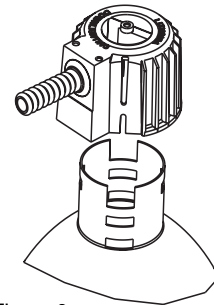
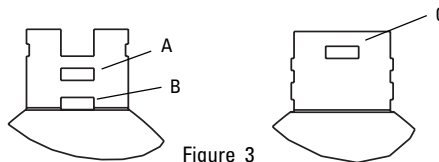

Figure 2
Figure 3
3. Attach socket housing to top of reflector by aligning spring in socket housing with slots in reflector as shown in Figure 2. **See chart and Figure 3 for proper location.**